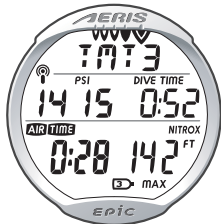

Fig. 95 - DECO STOP ALT 1
**DECO STOP ALT 1 DISPLAY**, information includes (Fig. 95) -